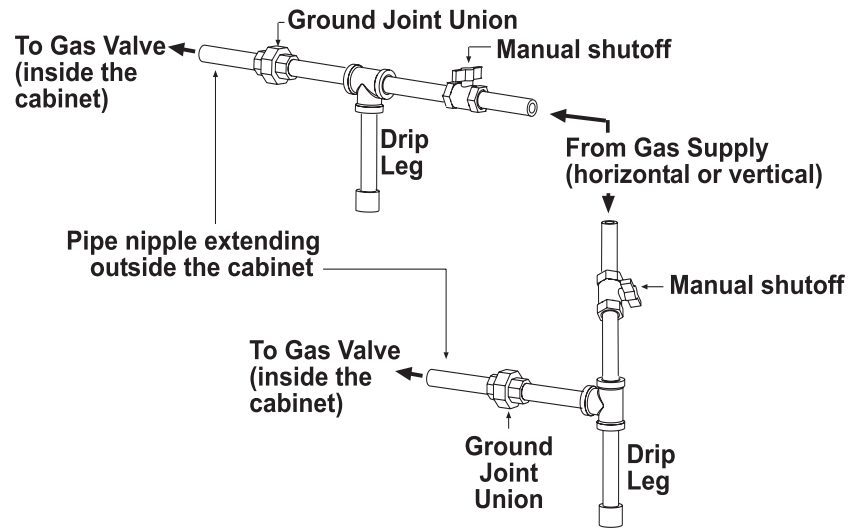

Figure 8. Gas Connections
- Install a ground joint union and manual shutoff valve upstream of the unit control system, as shown in **Figure 8**.
- The 1/8-inch plugged tapping in the manual shutoff valve in **Figure 8** provides connection for a supply line pressure test gauge.
- The *National Fuel Gas Code* requires the installation of a trap with a minimum 3-inch drip leg (see **Figure 8**). Local codes may require a drip leg longer than 3 inches (typically 6 inches). To permit burner removal, this drip leg must extend beyond the edge of the heater.
- The gas connection is made at the pipe nipple that extends outside the cabinet, as shown in **Figure 8**. Gas connection sizes are listed in **Table 11**.